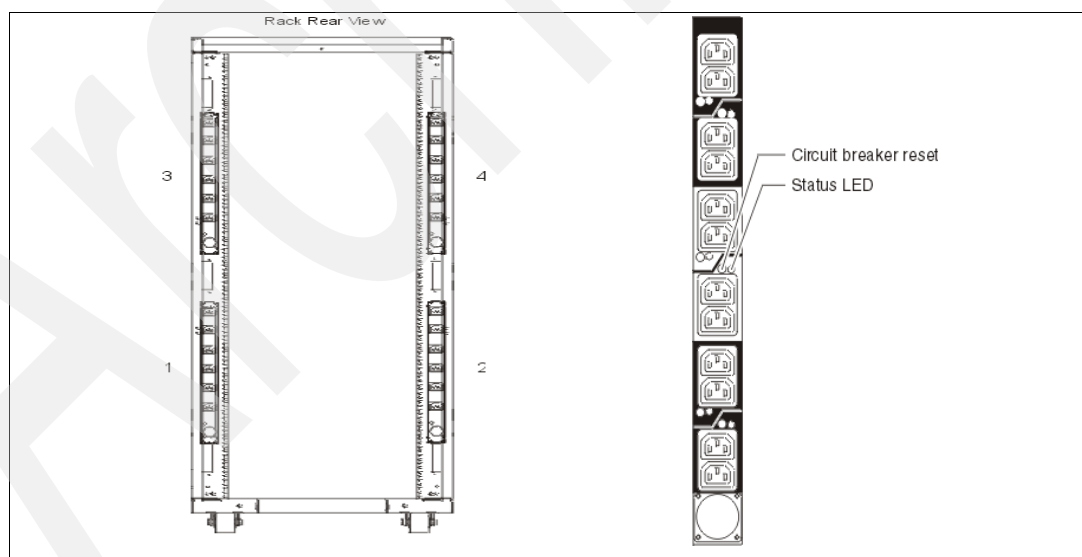

Figure 1-2 PDU placement and PDU view
- ▶ Up to four power distribution units (PDUs) can be mounted in the PDU bays (see Figure 1-2 on page 13), additional PDUS are available that can fit inside the rack. See 1.6.6, “The AC power distribution unit and rack content” on page 12.
Four PDUs can be mounted vertically in the T00 and T42 racks. Figure 1-2 on page 13 shows the placement of the four vertically mounted PDUs. In the rear of the rack, two additional PDUs can be installed horizontally in the T00 rack and three in the T42 rack. The four vertical mounting locations are filled first in the T00 and T42 racks. Mounting PDUs horizontally consumes 1U per PDU and reduces the space available for other racked components. When mounting PDUs horizontally, the authors recommend that you use fillers in the EIA units that are occupied by these PDUs to facilitate proper air-flow and ventilation in the rack.